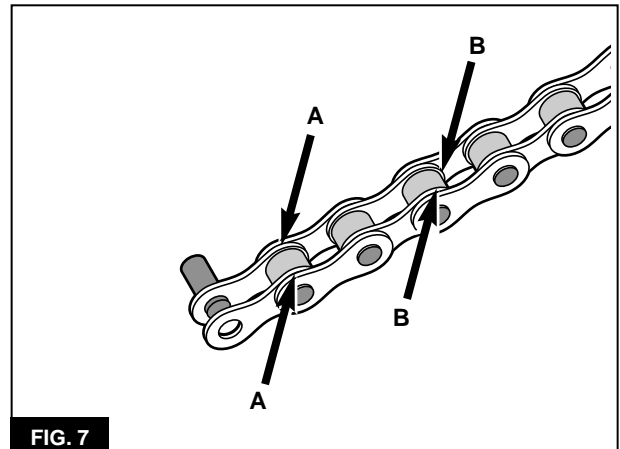

FIG. 7
1. Oil the contact areas between the inner and outer side plates on each link (**A, Figure 7**) as well as the contact areas between the inner side plates and each end of the rollers (**B, Figure 7**).